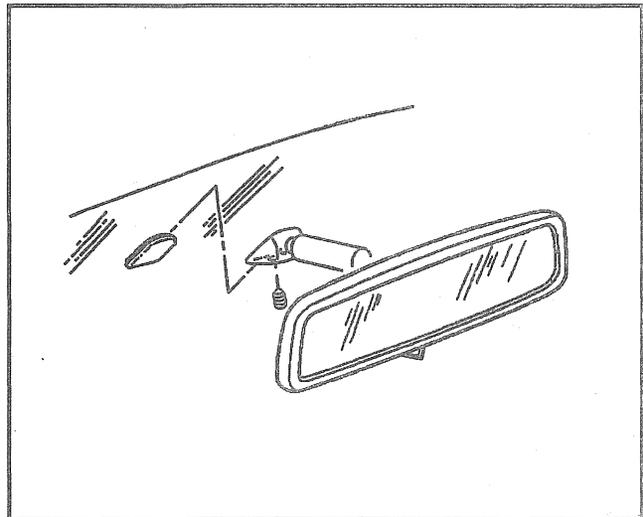

Figure 5—Rearview Mirror
5. Rear view mirror (Figure 5). Refer to "Mirror Removal" in this section.